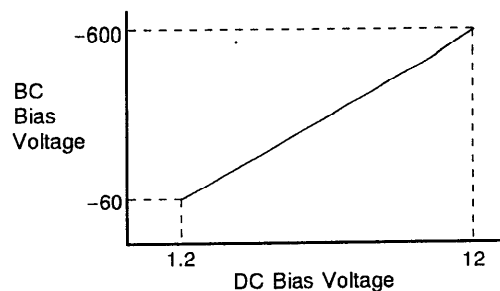

Fig. 3-307
2) Developer DC Bias Output Voltage Control Signal (Bias) is an analog DC voltage which is output from DC controller and varies the value of DC Bias by the analog voltage as shown in the figure 3-307.